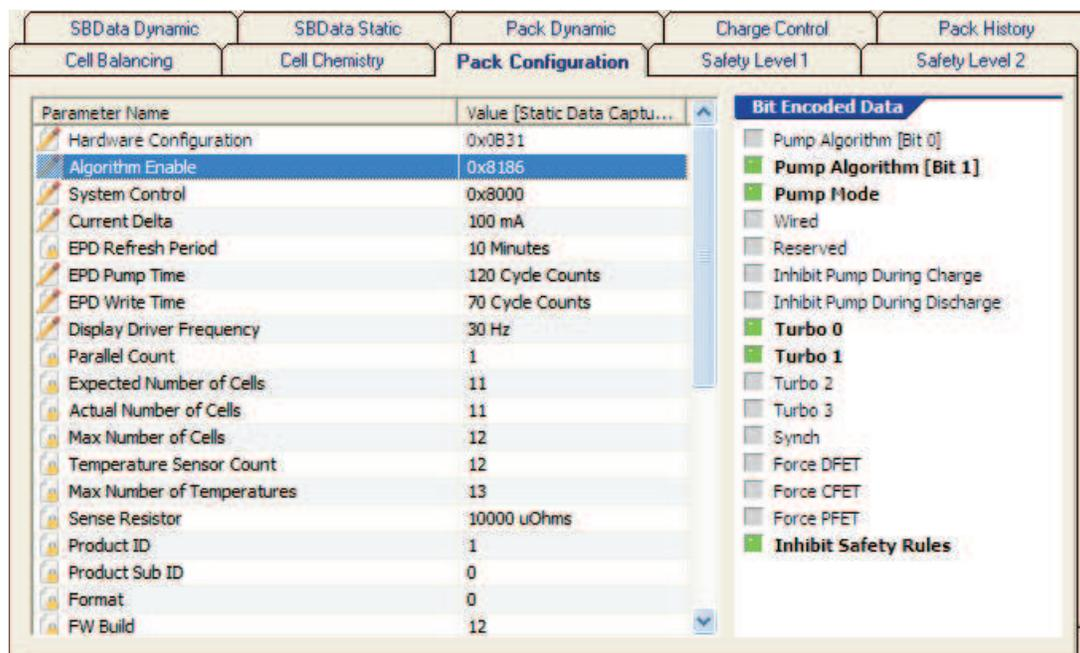

Figure 24. Algorithm Enable Configuration
1. Choose the Pack Configuration tab in the Data-Set. (Figure 24)